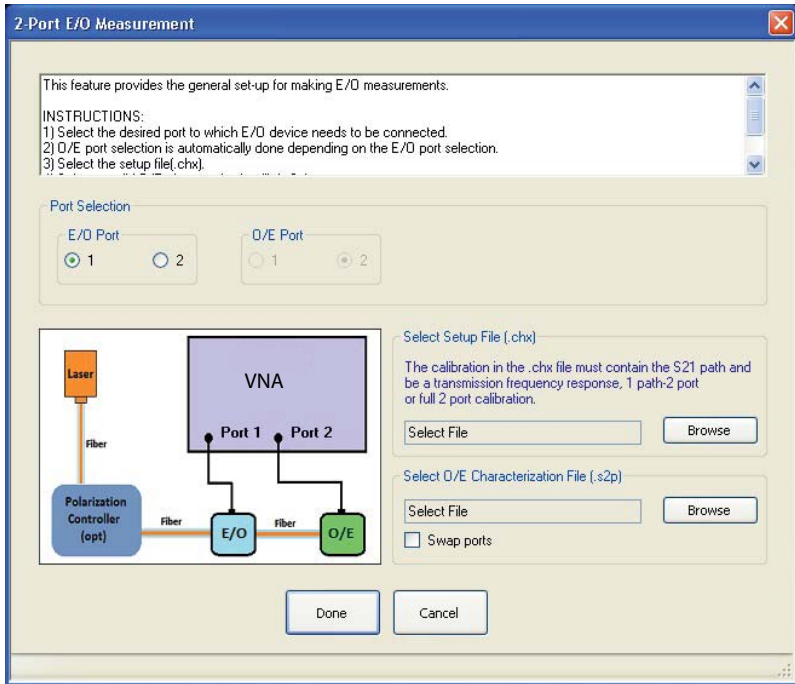

Figure 3-1. E/O Measurement Window
2. Press the Measurement key and select O/E-E/O. From the E/O measurement window, shown in Figure 3-1 on page 3-3 select E/O Measurements. Follow the instructions to load the 12-term electrical calibration.